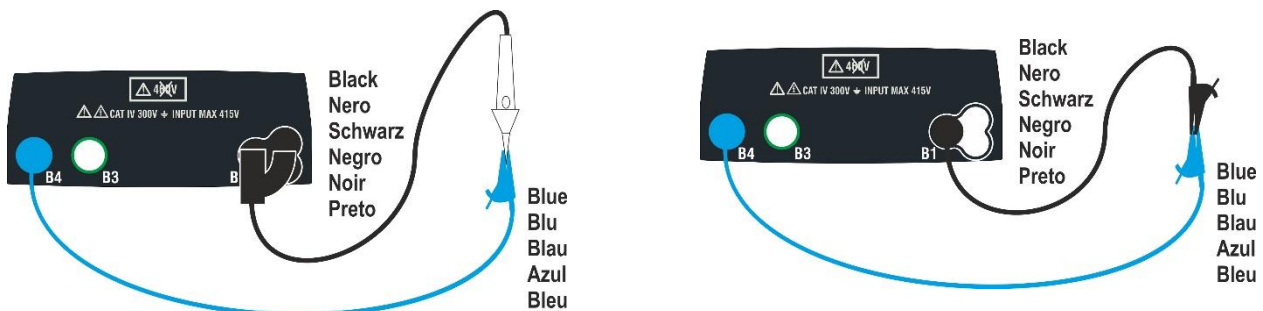

Fig. 10: Compensation of single cables and remote switch probe resistance
2. Connect the alligator clips and/or test leads and/or remote switch probe to the conductor to be tested as indicated in Fig. 10.